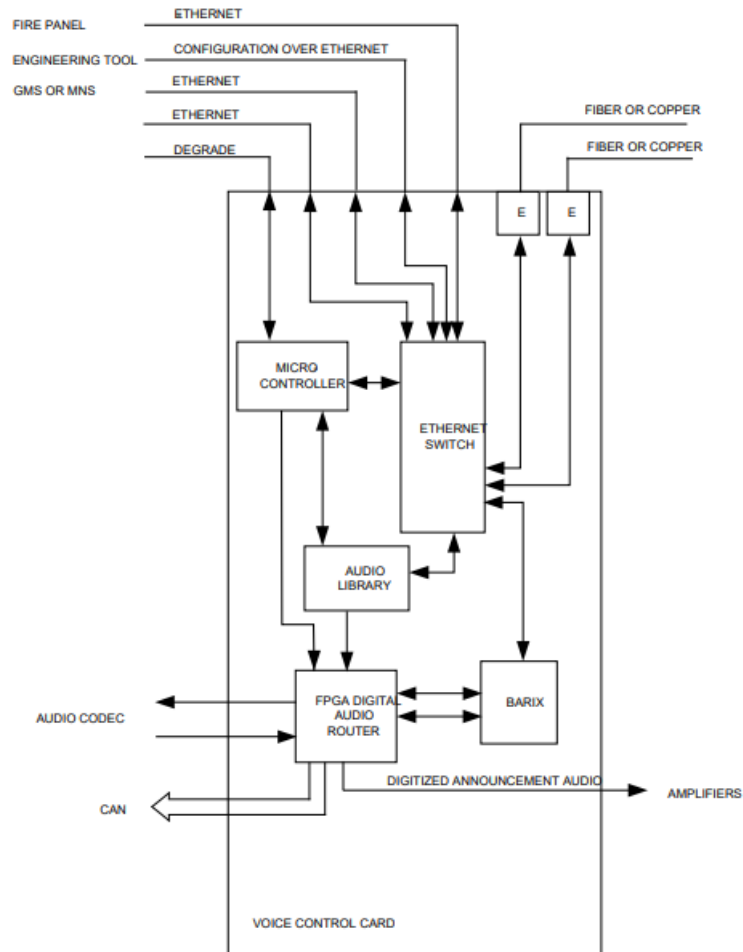

Figure 2
- Please refer to Figure 2. The VCC2001-A1 Voice CPU Card stores and routes digitized voice announcements. Those announcements can be sent to the local loudspeakers and also to remote networked Panels which then broadcast the announcements to speaker groups in their vicinity. The Voice CPU Card manages both pre-recorded announcements which are stored digitally in an on-board Audio Library and live emergency announcements that originate using microphones. These live analog announcements are digitized by the associated VCC2002-A1 Voice I/O Card and are then routed to both the Voice CPU Card and to speakers which are co-located with the remote microphones.